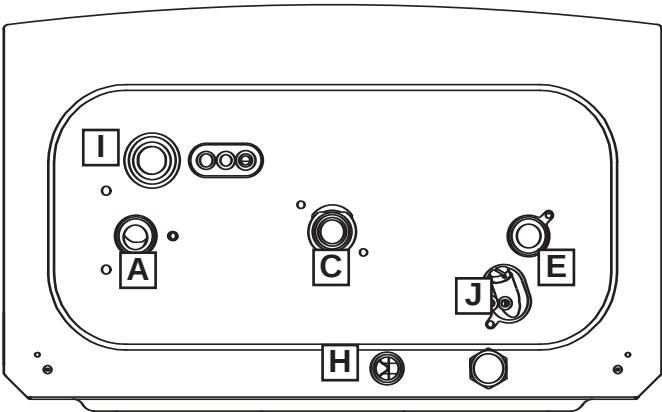

Fig. 2.5
2.5.2. Position the appliance on the hanging bracket and connect the connection kit to the boiler connections. (see also Sections 2.7 Gas Connections, 2.8 Water Connections & FIG. 2.5).
A flexible hose is supplied for connection to the condensate discharge point H (Fig. 2.5). The condensate discharge hose from the boiler must have a continuous fall of 2.5° and must be inserted by at least 50 mm into a suitable acid resistant pipe - e.g. plastic waste or overflow pipe. The condensate discharge pipe must have a continuous fall and preferably be installed and terminated within the building to prevent freezing.